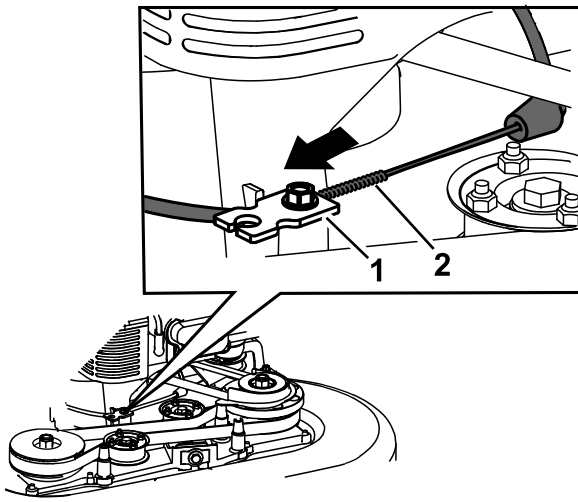

Figure 14
8. Pull the cable jacket to remove slack (Figure 14).